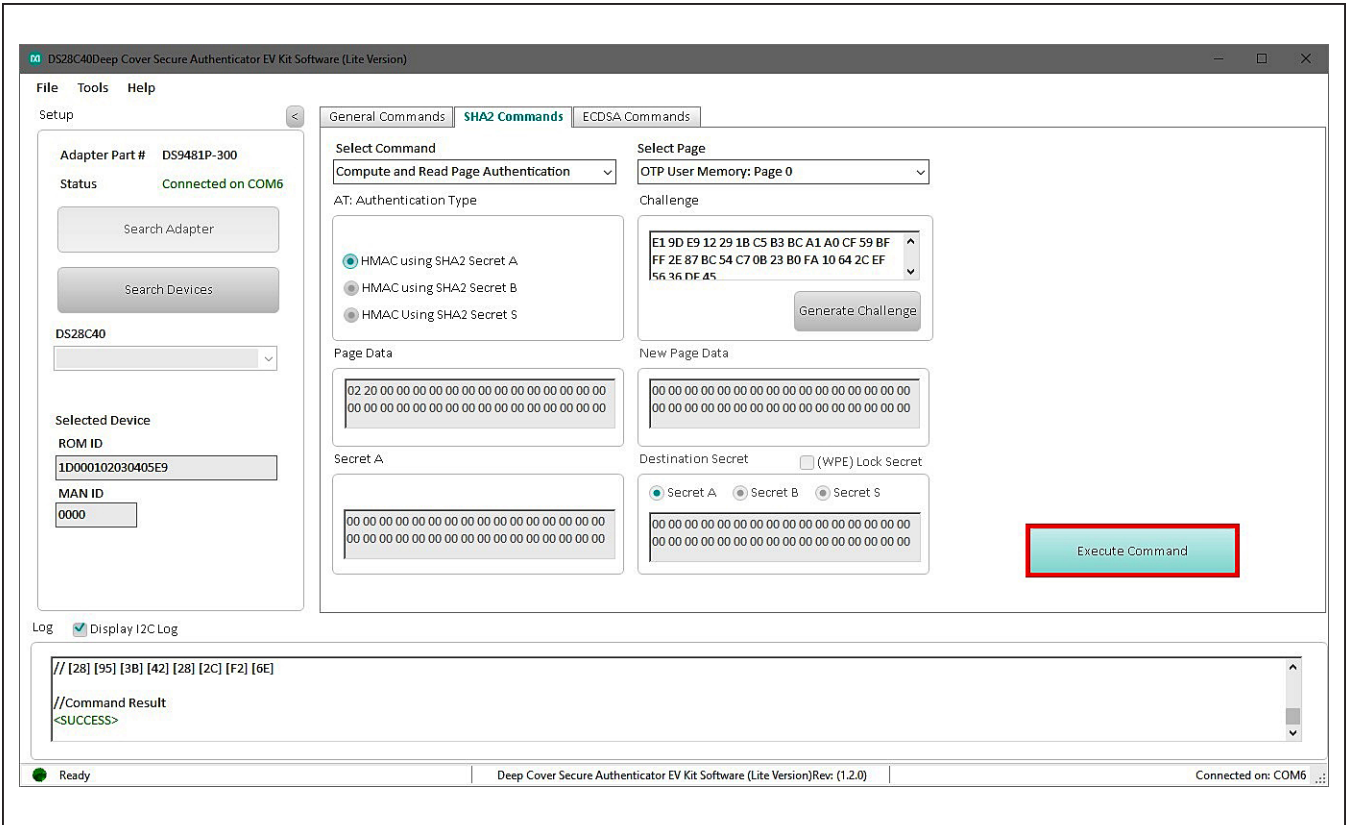

Figure 23. Execute Command
- 9) Click the **Execute Command** button to run the sequence (Figure 23). The command result is displayed on the **Log** box.